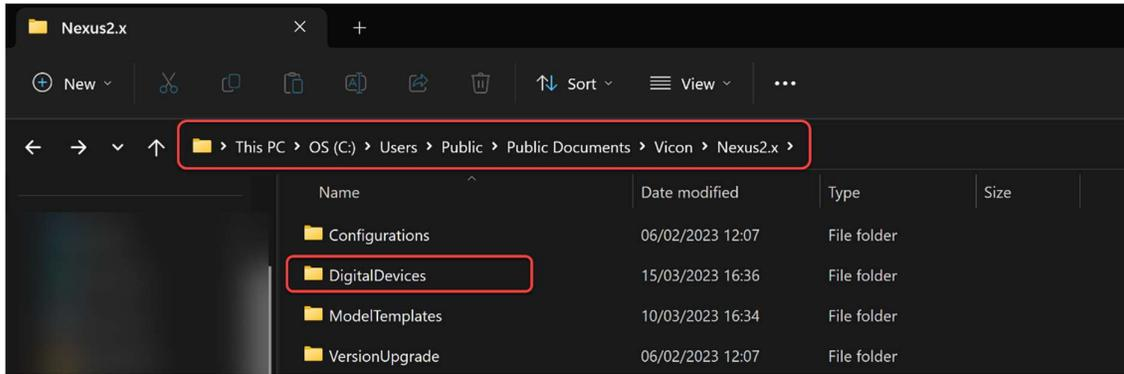

Figure 3a: Screenshot of the *DigitalDevices* folder.
- a) Navigate to the *DigitalDevices* subfolder within the *Nexus2.x* location. If this folder does not exist, create it as shown in Figure 3a below.